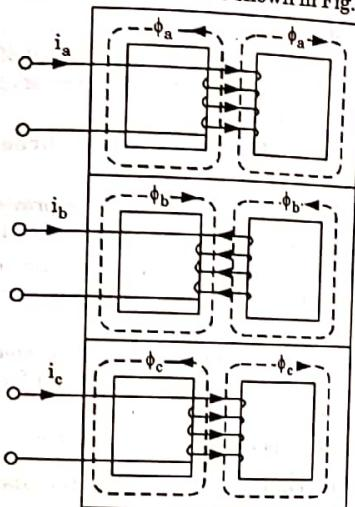

Fig. 5.6.2. Development of a 3φ shell-type transformer.
1. The shell-type 3φ transformer can be constructed by stacking three single-phase shell transformers as shown in Fig. 5.6.2.